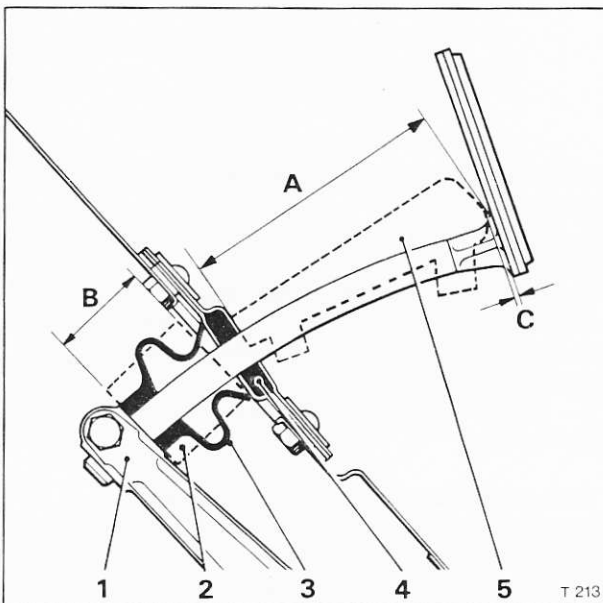

Fig. G12-4 Brake pedal height settings
Brake pedal height setting (see figs. G12-4 and G12-5)
1. Locate the setting gauge into the brake pedal stem hole in the end of the pedal lever (see fig. G12-4). Raise the pedal lever until the gauge touches the underside of the toeboard seal housing.
Brake pedal height – To check (see fig. G12-4)